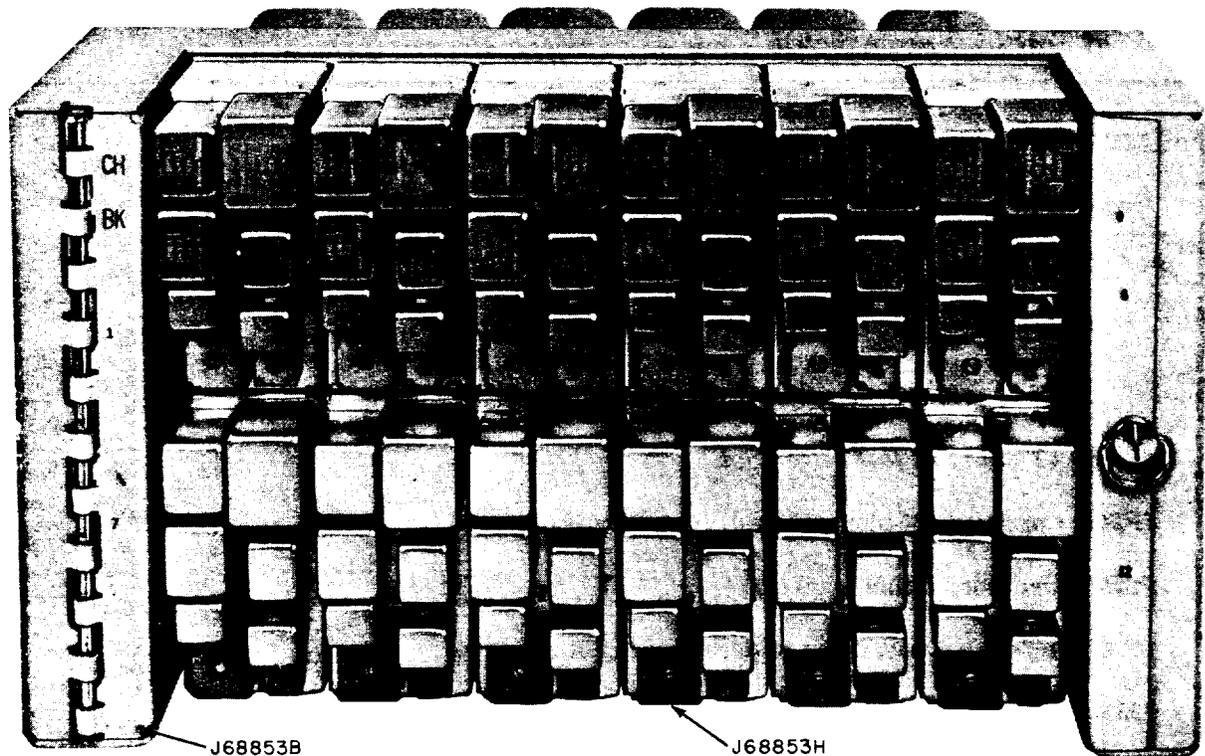

Fig. 1—J68853B 12-Channel A5 Bank Equipped With J68853H Modems—Front View
The A-type channel bank (Fig. 1) is a frequency-division multiplex terminal that translates 12 voice-frequency (VF) channels to the 60- to 108-kHz group band in its transmitting section and translates the 60- to 108-kHz group band to 12 VF channels in its receiving section.